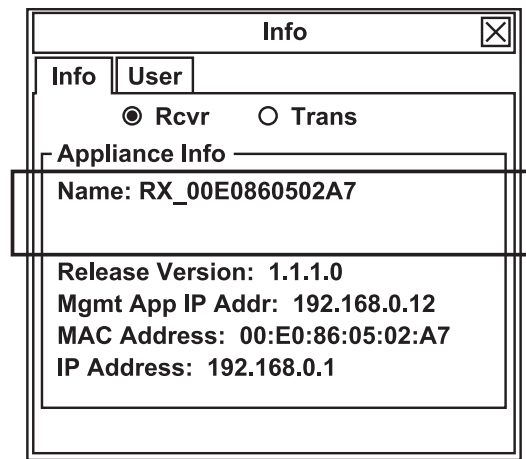

Figure 4-7. DTX Receiver Connected to Transmitter.
1. Press "Print Screen." In Extender Mode, the Info tab displays user information for your DTX receiver by default. (See Figure 4-7.)